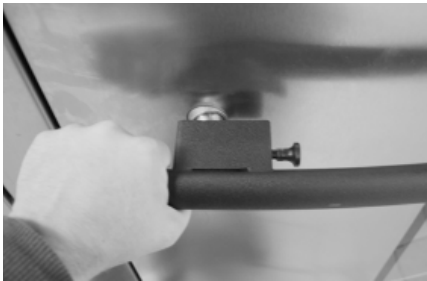
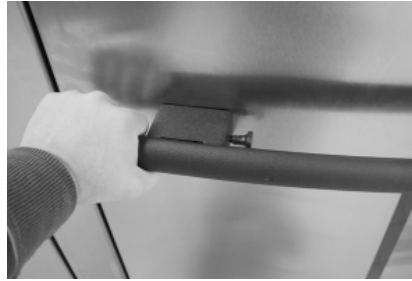
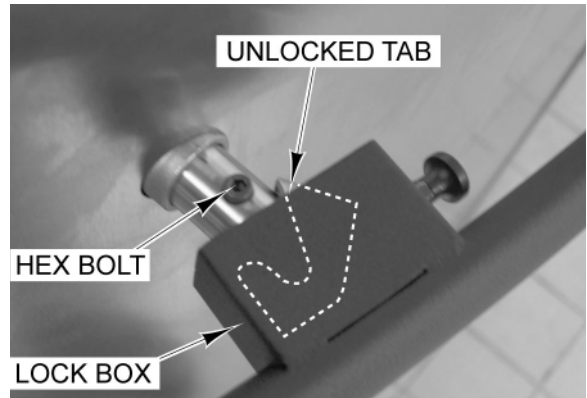

Fig. 10
Fig. 11
Fig. 15
- A. Pull out on door handle (Fig. 10) to open door, then push door shut (Fig. 11). If the door is too hard to open or close, see door ramps adjustment (Fig. 5).
- G. To close handle, the lock mechanism needs to be in the unlock orientation (Fig. 15).
- H. Place lock box over hex bolt and slowly push handle in to door (Fig. 15). Check to see if the handle latch engaged by opening door (Fig. 10). Repeat if necessary.